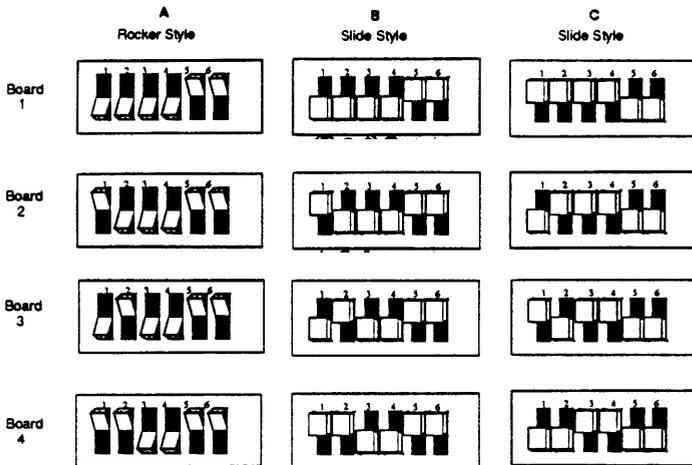

Figure 3-7. Settings for SW12.1
- If the board has unmarked slide switches, the setting of the second switch (S W12. 1) should correspond to one of the settings shown in Figure 3-7. Use the configuration letter at the top of the column in which the match is found.
The second switch (SW 12. 1) sets the board address. Figure 3-7 shows the correct settings for up to four boards in each of the three configurations.